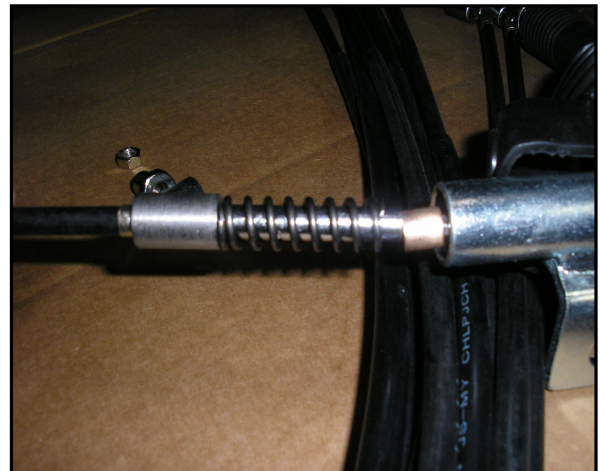

Fig 6
- E. Install the spring on the cable and run thru the new shifter connection. (Fig 6)